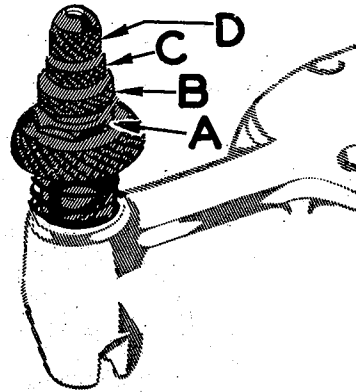

Fig. 3
Sufficient pressure to feed the work uniformly should be maintained. Should it be necessary to increase or decrease amount of pressure on presser foot, loosen lock nut (A, Fig. 3), and turn adjusting screw (B). Adjusting screw has a right hand thread; tightening will increase pressure, loosening decreases the pressure. When pressure adjusting screw (B) has been properly set, tighten the lock nut (A). With presser foot resting on throat plate, position locking nut (C) so that its under surface is approximately $\frac{1}{32}$ inch to $\frac{1}{16}$ inch from the top surface of the adjusting screw (B). Set cap (D) against locking nut (C).